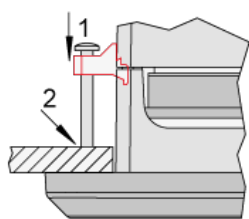

Fig. 16: Tighten clamping screws
6. ➔ Tighten the clamping screws (Fig. 16/1) until the control unit is secured to the control panel (Fig. 16/2). Over tightening of these screws may result in the clamp inserts or the housing breaking. Do not exceed the recommended tightening torque of 0.1 Nm.